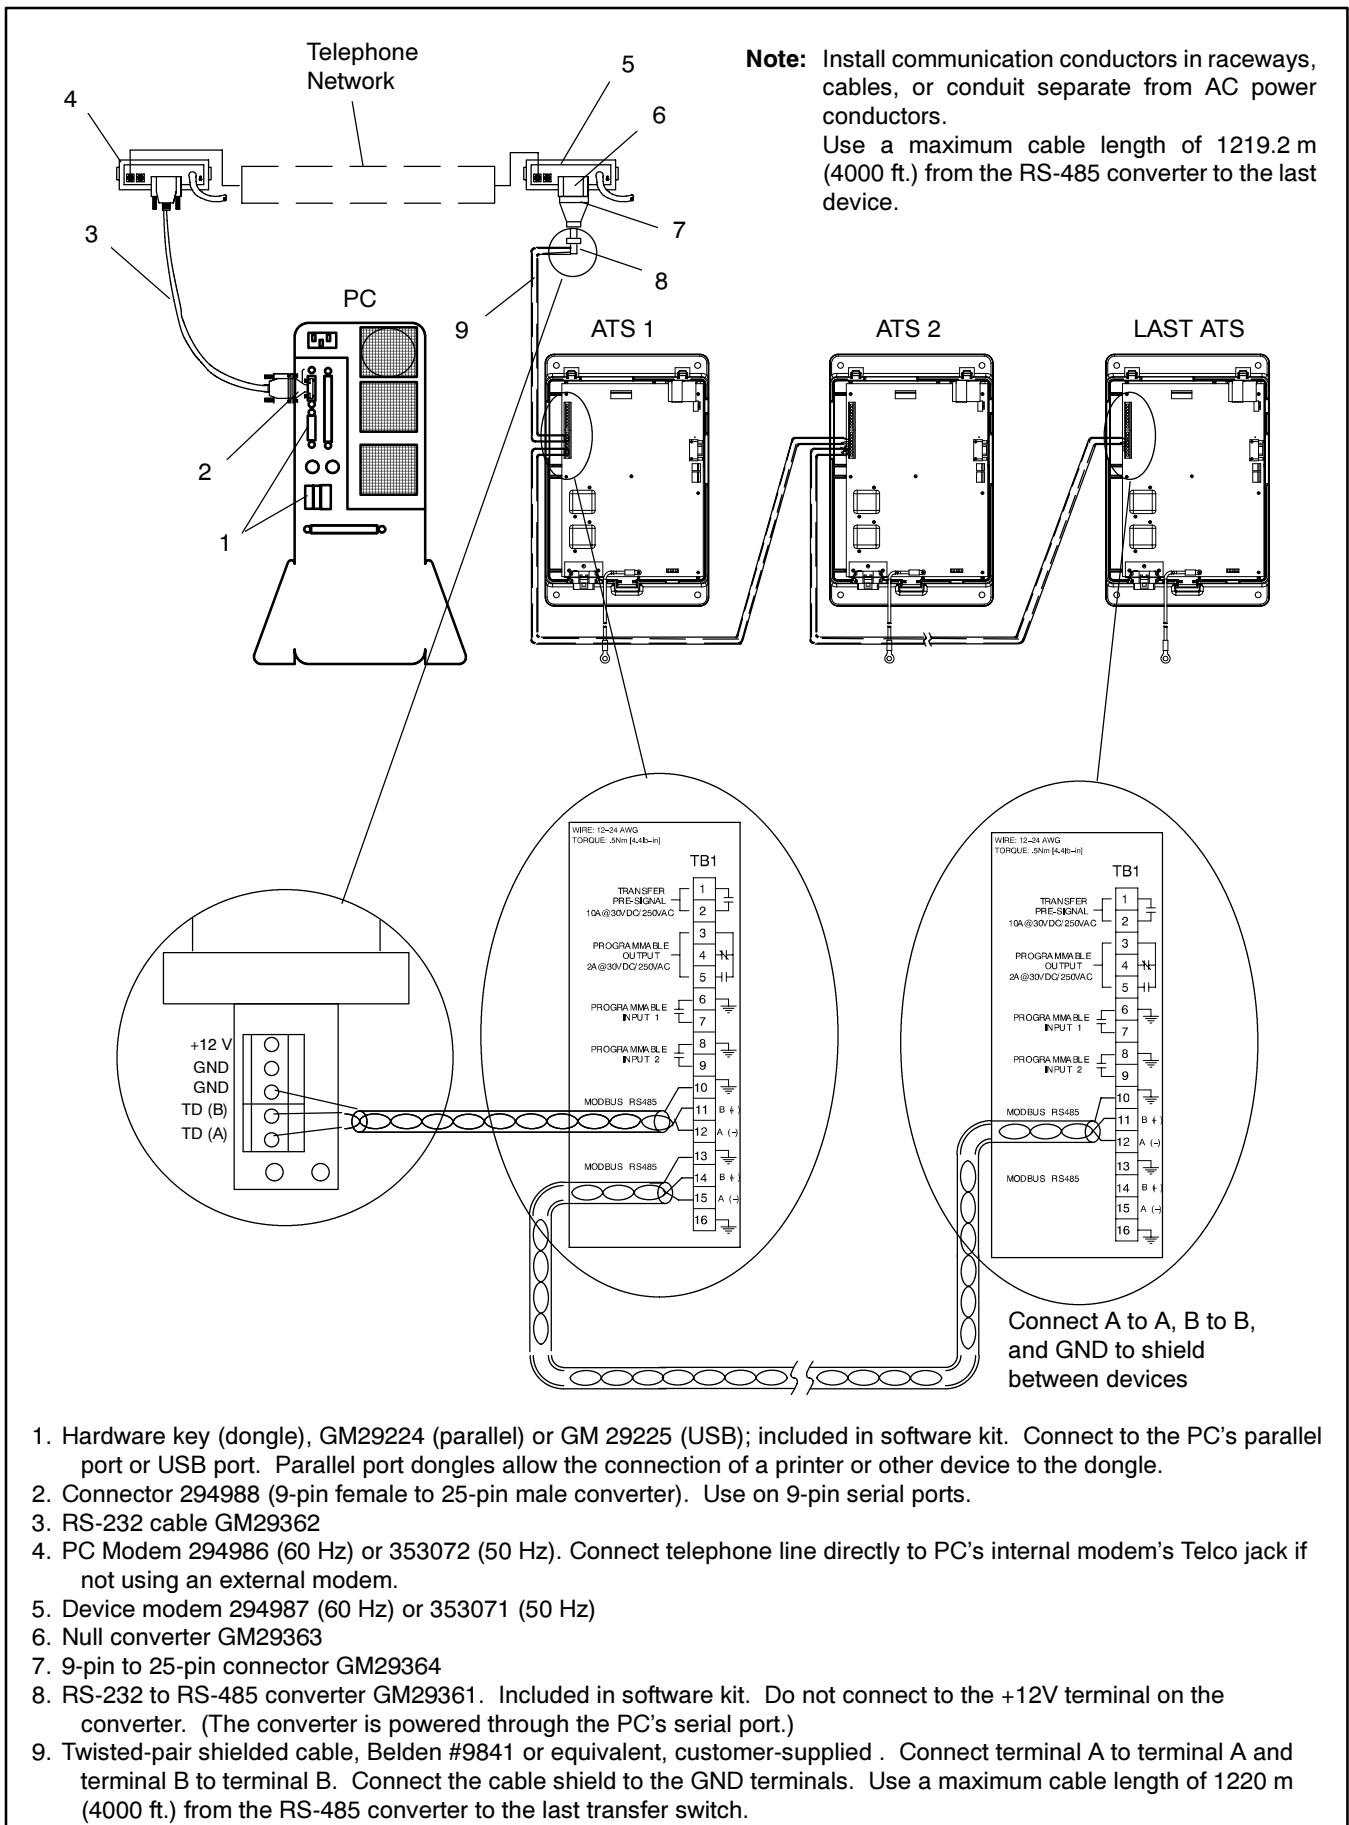

Figure 11 Remote Area Network
3.1 Refer to the connection diagrams in Figure 9 through Figure 11. Identify the appropriate diagram for the application: local single connection, local area network, or remote connection.